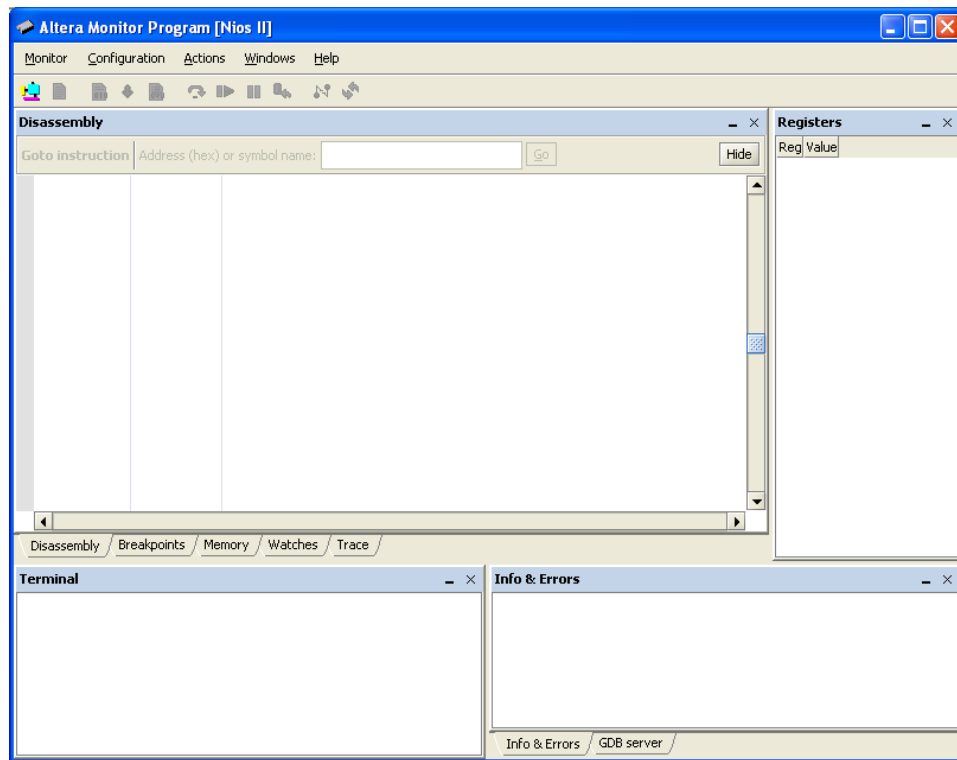
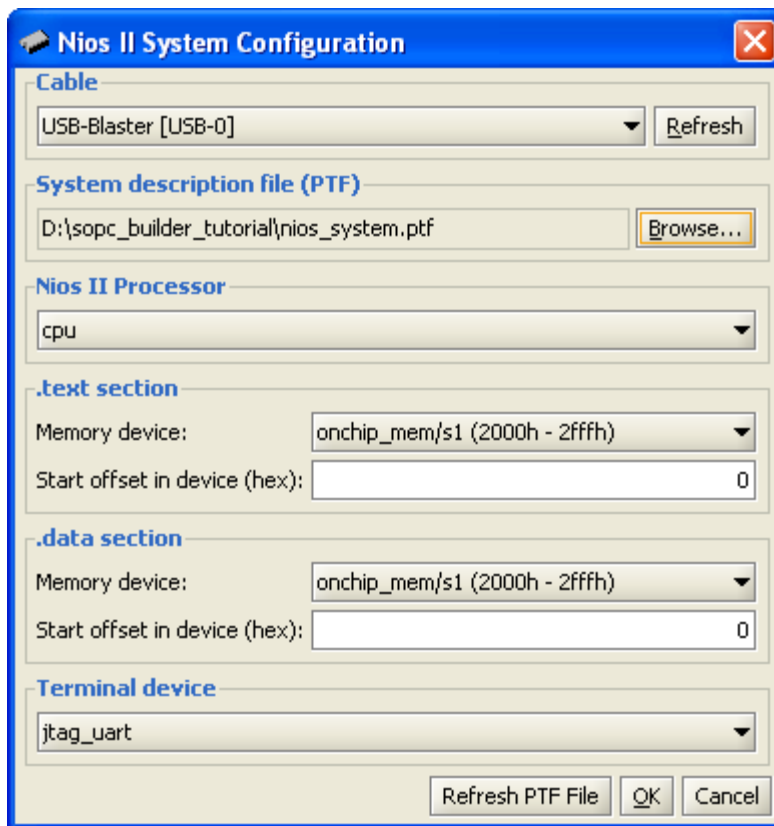

Figure 21. The Altera Monitor Program window on startup.
Figure 22. The Nios II System Configuration window.
Open the Altera Monitor Program, which leads to the window in Figure 21. This software needs to know the characteristics of the designed Nios II system, which are given in the ptf file `nios_system.ptf`. Click the **Nios II > Configure system...** menu item to display the Nios II System Configuration window, shown in Figure 22, and perform the following steps:
3. The Altera Monitor Program also needs to know where to load the application program. In our case, this is the memory block in the FPGA device. The SOPC Builder assigned the name `onchip_mem` to this block. As shown in Figure 22, the Monitor Program has already selected the correct memory device.